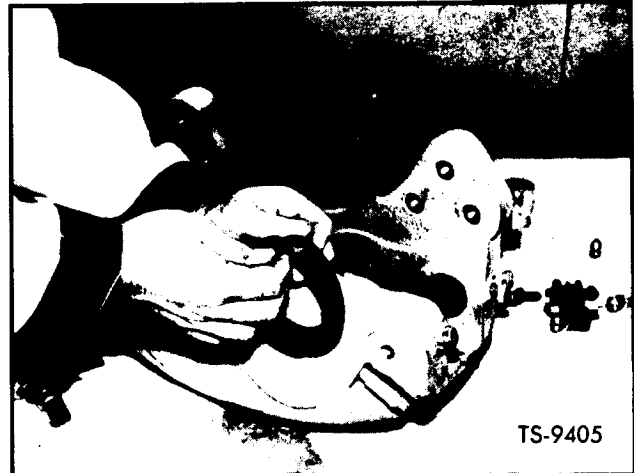

**Fig. 20. Inspect Pistons**
11. Inspect pistons for minor scratches and nicks and blend with crocus cloth. If piston is badly scratched, nicked, or worn, replace piston. Piston showing evidence of excessive wear or rubbing off of the chromed surface will cause undue friction and must be replaced. Visually inspect pistons as shown in Figure 20.